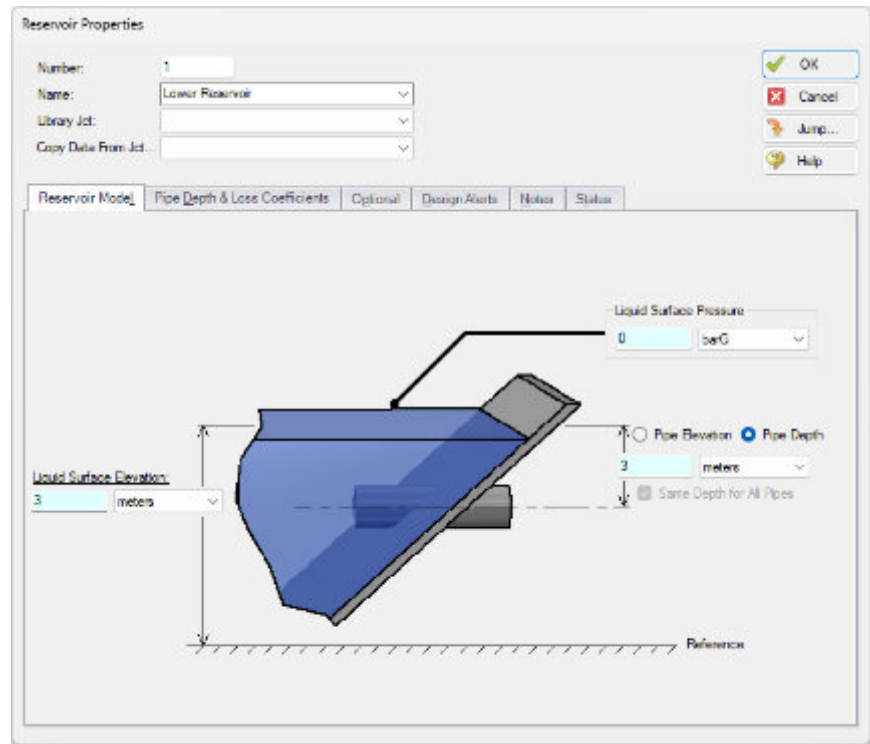

Figure 2.15 Properties window for the J1 Reservoir
- **To define the first reservoir**, open the J1 Reservoir Properties window (Figure 2.15) by double-clicking on the J1 icon. The pipe table should show you that Pipe 1 connects to this reservoir (click the Pipe Depth & Loss Coefficients tab to display the pipe table).
You can give the junction a name, if desired, by entering it in the Name field at the top of the window. By default, the junction's name is not specified. If a junction name is entered, it will be displayed in the Model Data, Output, and in Workspace Layers. Name this reservoir Lower Reservoir, as shown in Figure 2.15.
Separate tabs in the Properties windows contain the junction information and input fields. Click any tab to bring its information forward. Figure 2.15 shows a Reservoir junction Properties window.